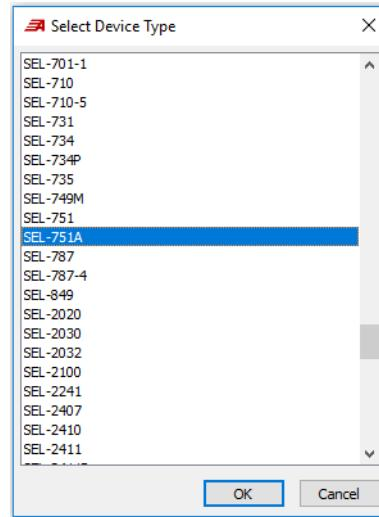

Figure 2.19 Select the Device Type to be Added
Step 6. In the dialog box that displays, select the type of device you want to add (see *Figure 2.19*) to the folder and click **OK**. For this Job Done® example, we select an SEL-751A.